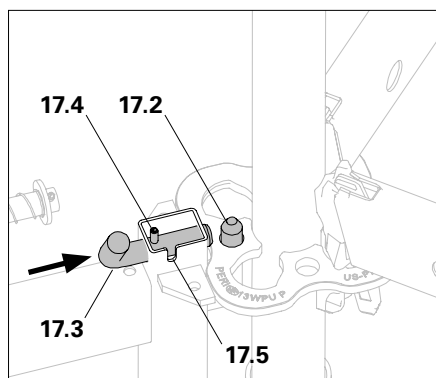

Fig. B1.04a
2. Insert locking lever (17.3) and turn downwards. Roll pin (17.4) must be fully engaged in the groove. (Fig. B1.04a – B1.04b)